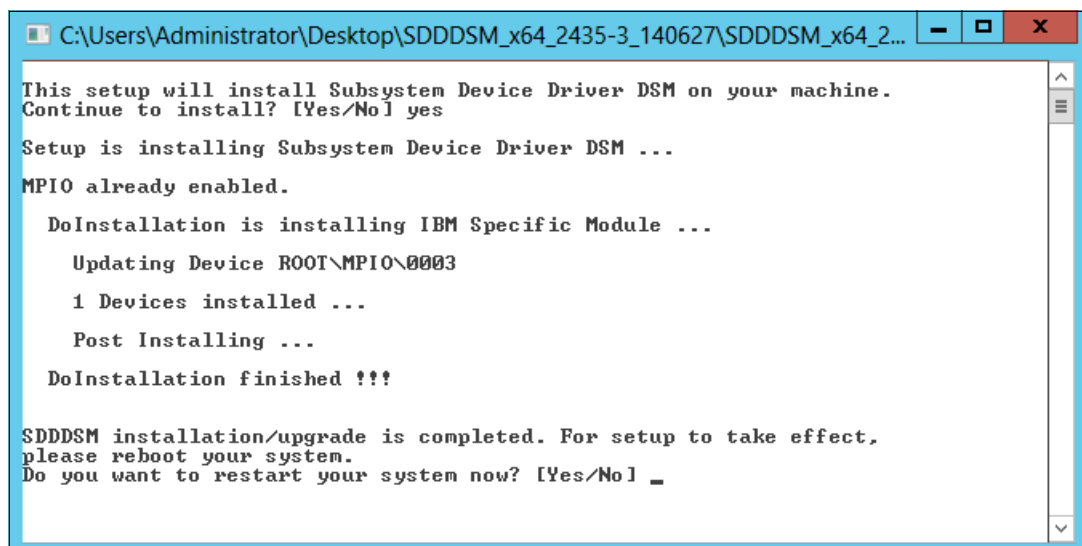

Figure 6-28 IBM SDDDSM installation complete: Windows 2012
- In this case MPIO is already installed, so only the DSM is needed. When complete, the installation prompts you to reboot your host to activate the new device driver, as shown in Figure 6-28.